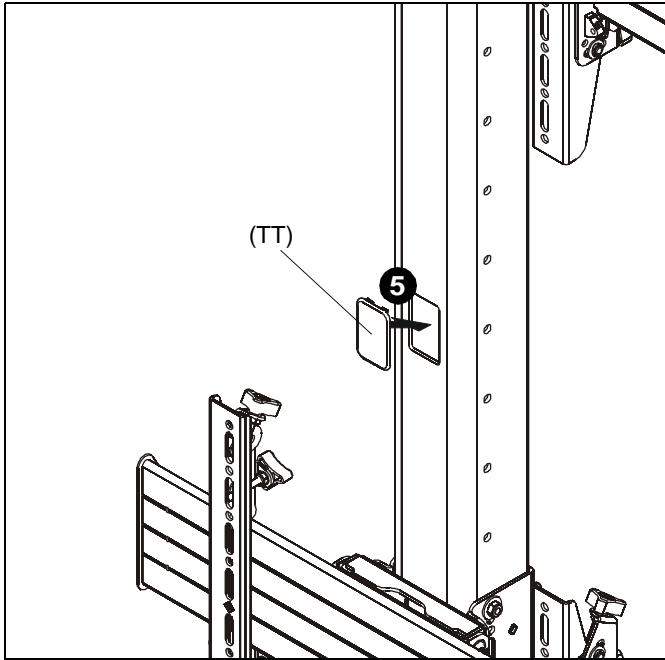

Figure 25
5. For any cable management holes that are not used, snap covers (TT) may be used to cover holes as desired. (See Figure 25)